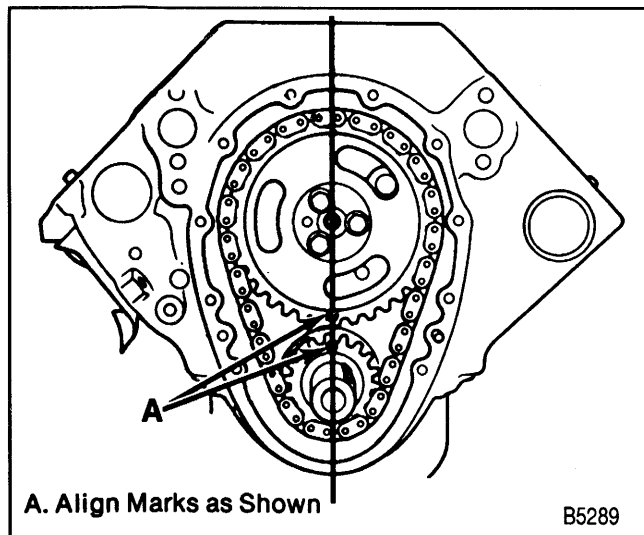

Figure 21—Timing Marks
↔ Remove or Disconnect (Figures 21, 22, and 23)
- Align the timing marks (figure 21).
→→ Install or Connect (Figures 21, 22, and 23)
- Line up the timing marks on the camshaft sprocket and crankshaft sprocket (figure 21).